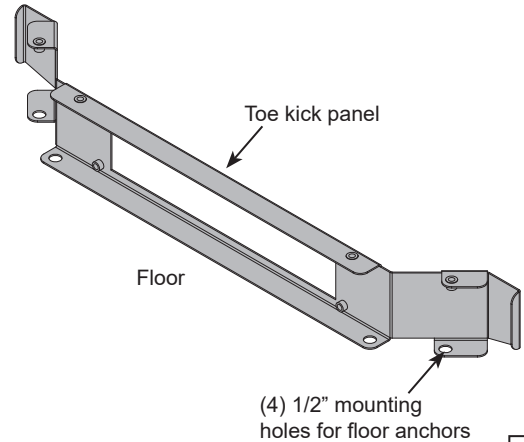

Figure 9A
1. Position the toe kick panel on the floor in the preferred final lectern location. **Figure 9A.**
2. Mark the (4) mounting hole locations onto the floor.